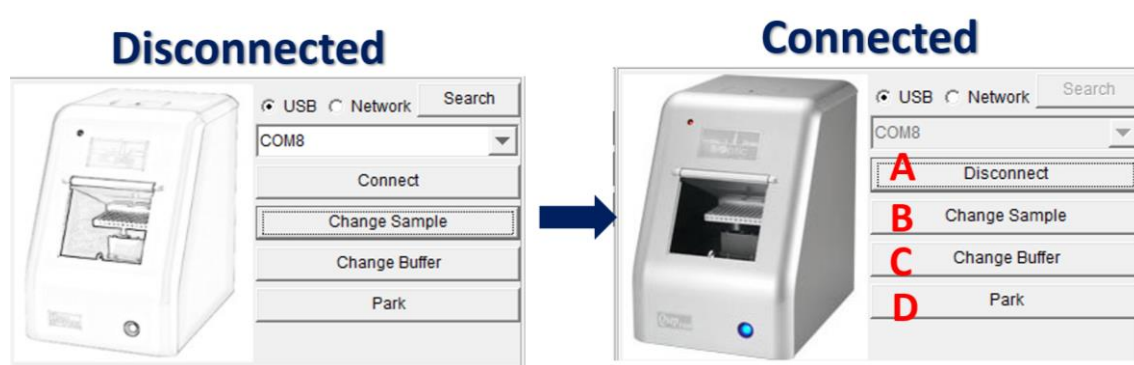

Figure 3-3 Instrument connection
Please ensure *Qsep*[™] series is connected to your computer using the USB cable (for *Qsep*₁₀₀ and *Qsep*₄₀₀) or the Ethernet cable (only for *Qsep*₁). Turn ON the power of *Qsep*[™] series instrument, and then establish the connection of *Qsep*[™] series with your computer by clicking the **Connect** button on the Control Panel (Figure 3-3 A). When the **Connect** button changes to **Disconnect** and the displayed *Qsep*[™] series picture turns into color form, which indicate the connection is established.
Click **Change Buffer** to move the buffer tray holder to the door (Figure 3-3 C). Place the solution accordingly in the buffer tray as shown in Figure 3-5. Place the buffer tray properly in the tray holder. Place the suitable alignment marker at MA1~MD1, if needed.
Then, click **Change Sample** (Figure 3-3 B) to move the tray holder to the door and place the samples. After these steps, close the sample door.
***Note:** Before inserting the cartridge, click **Park** (Figure 3-3 D) to ensure the tray holder at the park position.